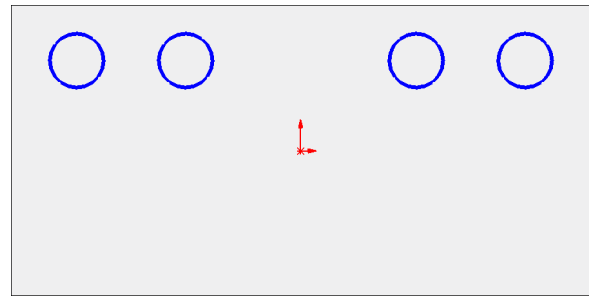

Fig. 28
Step 10. Click **Mirror Entities**  on the Sketch toolbar, **Fig. 28**.